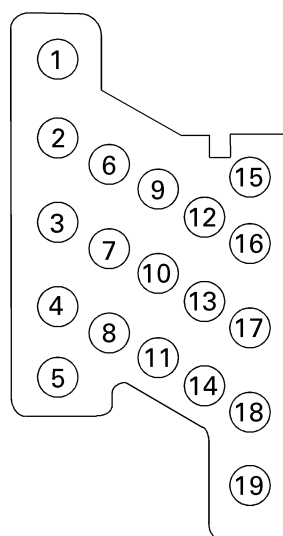

Figure 27. Pin layout of the substructure-mounted trip unit disconnect, as seen from the rear.
27. Connect the wires from the substructure-mounted trip unit disconnect [9] to the appropriate external sources. The wire colors and groupings are the same as those listed in Table 5. The pin arrangement of the trip unit disconnect plug is shown in Figure 27.